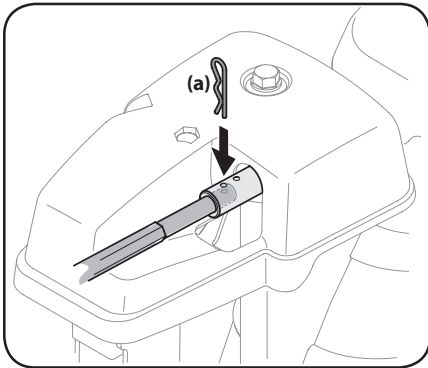

Figure 4-12
2. Pull out chute control rod until hole in it lines up with second hole in chute rotation assembly. See Figure 4-12.